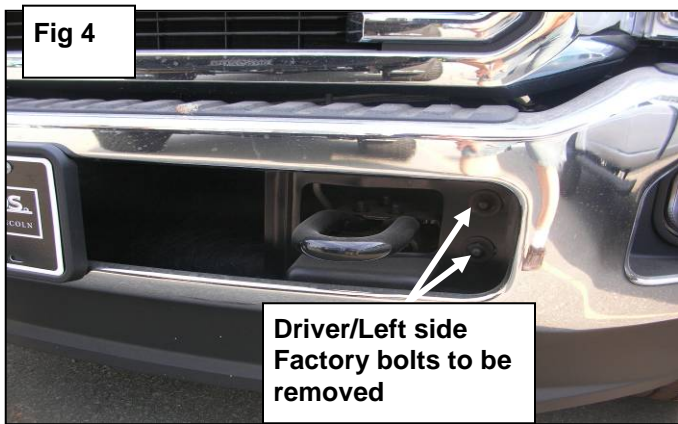
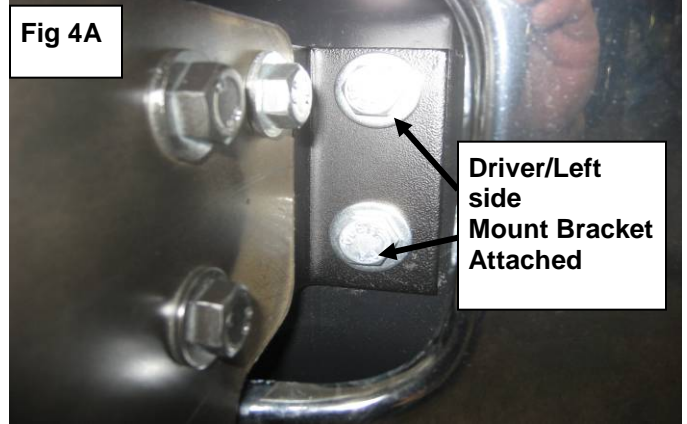

Fig 4
Fig 4A
4. Next starting with the Driver/Left side Begin your install by removing the bumper mount bolts **WARNING, Do not remove Passenger & Driver side bumper bolts at the same time as bumper will drop down.** Remove and install only one side at a time. **(Fig 4)** shows factory bolt locations. Select the Driver side mount bracket from the list of parts above and secure it to the bumper with the factory bolts & nut plates **(Fig 4A)** shows mount bracket attached. Snug, but do not tighten hardware at this time. Repeat this step for the Passenger/Right side installation